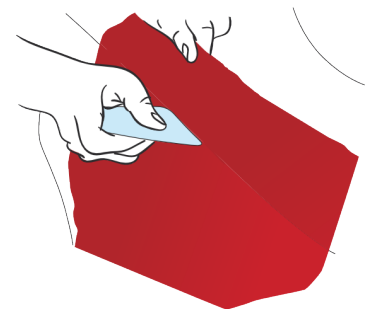

Figure 30
- › Trace with your finger the contours of the area. Lift the vinyl of the adjacent part and drag it into the hollow using a squeegee so as to mark the seal edge. (FIG. 30)